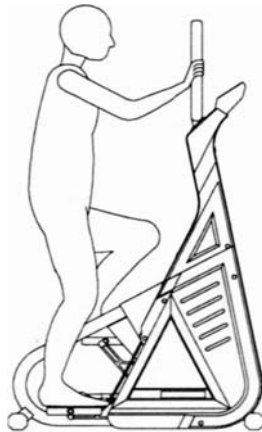

Figure 5: Correct Exercise Posture
3. Relax and stand up straight while exercising. Use the handlebars for balance (see Figure 5).